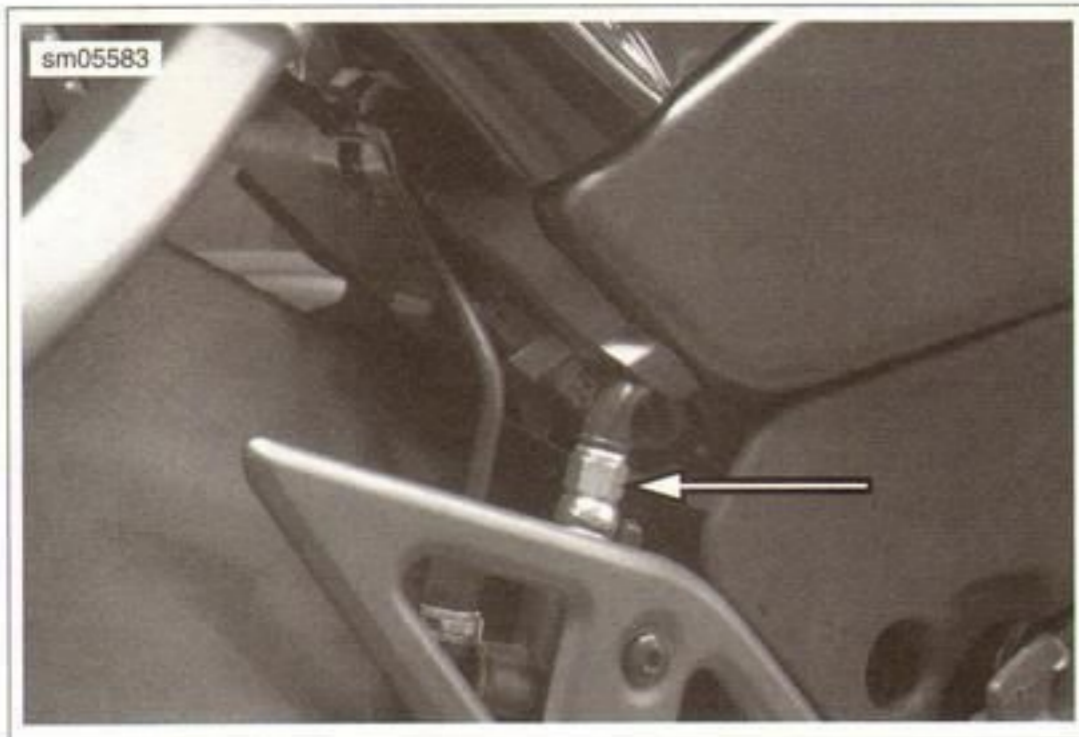

Figure 7-78. Rear Brake Light Switch
1. See Figure 7-78. Remove rear brake light switch, rear brake line and two washers from the rear master cylinder.